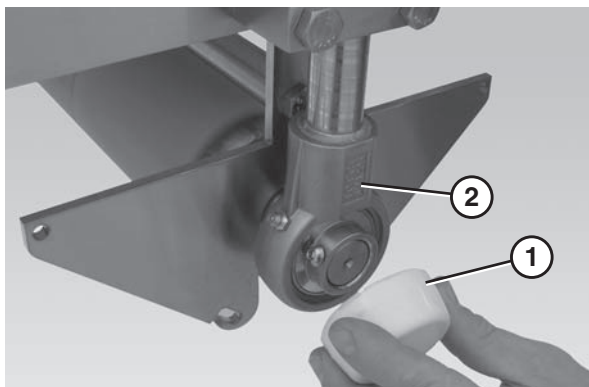

Figure 66
12. Remove the bearing cover (**Figure 66, item 1**) on the center drive shaft assembly (**Figure 66, item 2**).